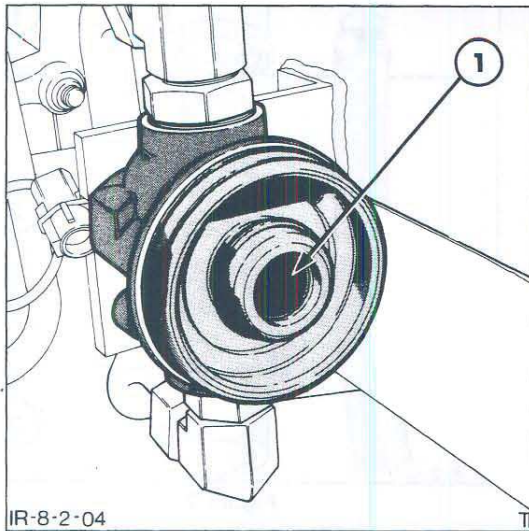

Figure 4
3. Position a suitable container beneath the filter head and drain the hydraulic oil from the system by pressing the anti-siphon valve open, refer to Figure 4.